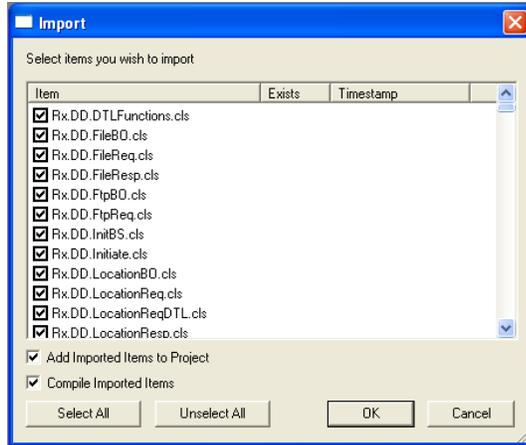

Figure 3-10: **Import** dialog showing chosen items
6. Select the file to import and click **Open** to display the **Import** dialog shown in Figure 3-10: